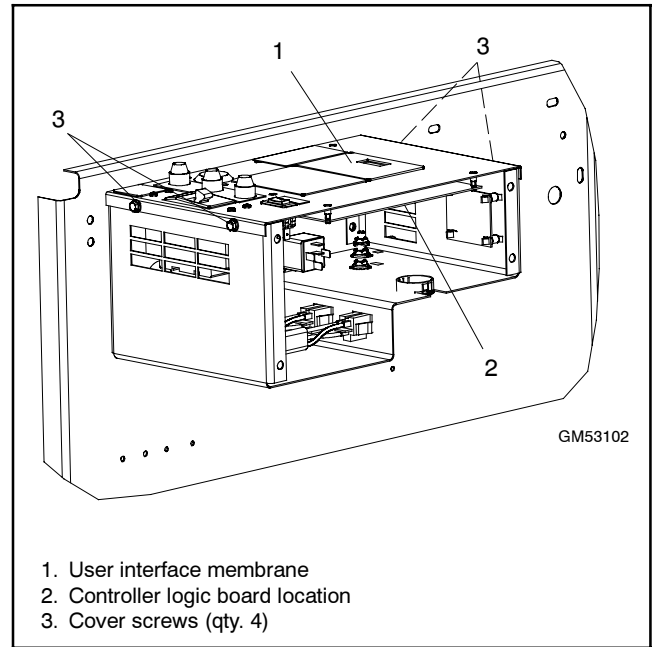

Figure 4-18 Controller in Junction Box
6. Remove the four screws securing the top panel of the controller junction box and *carefully* lift the panel. Note connections to the panel and disconnect as necessary to access the inside of the junction box. See Figure 4-18.